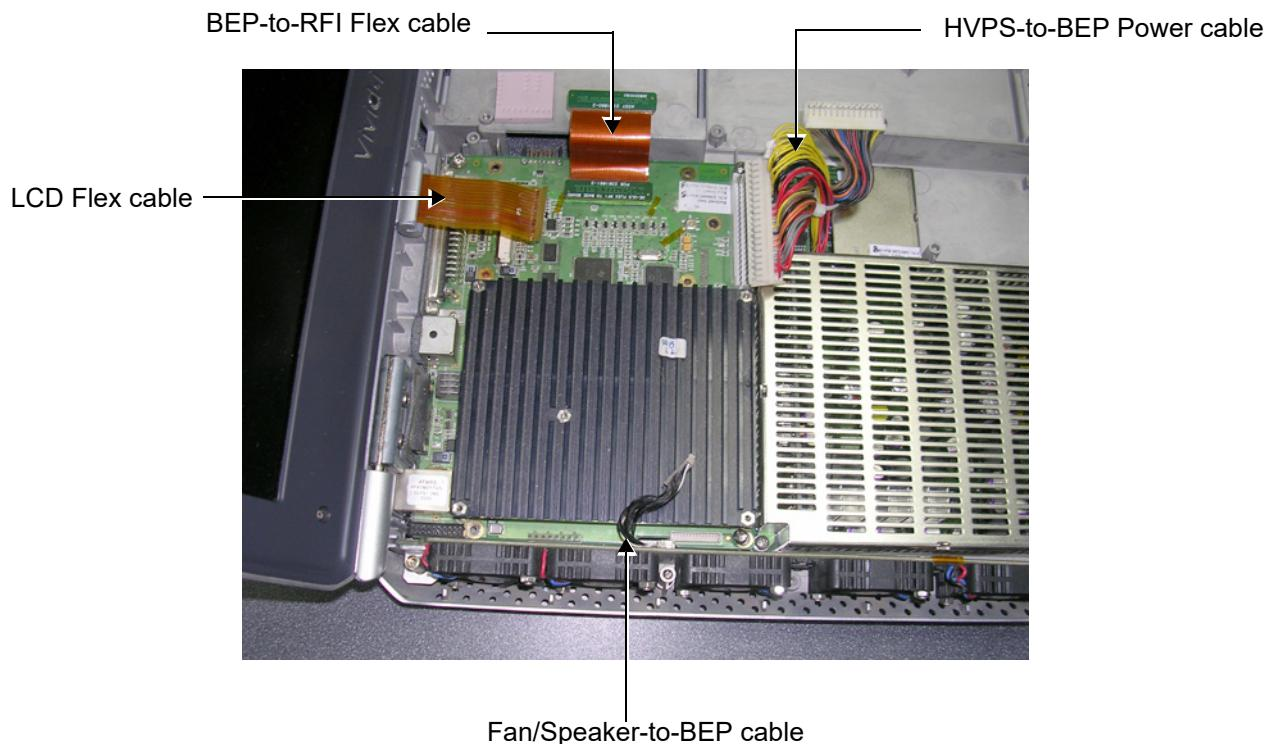

Figure 8-33 DisConnecting Cables from the BEP
Proceed as described on the next page (and illustrated in Figure 8-33).
- 6) Disconnect BEP cables as follows (refer to Figure 8-33 below):
Proceed as follows (refer to Figure 8-33 on page 8-34):